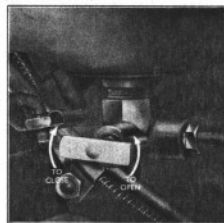

Fig. 2. Fuel Tap
1. Ensure that the fuel tap, mounted on the right-hand side underneath the fuel tank (see Fig. 2), is turned on. Turn anti-clockwise to the "on" position, and *vice versa*.
Suppose, for instance, that it is desired to work at 2 m.p.h. in third gear. The necessary gear selection is made by the operator and the engine speed is adjusted until the needle of the proofmeter cuts figure 2 on the red band.